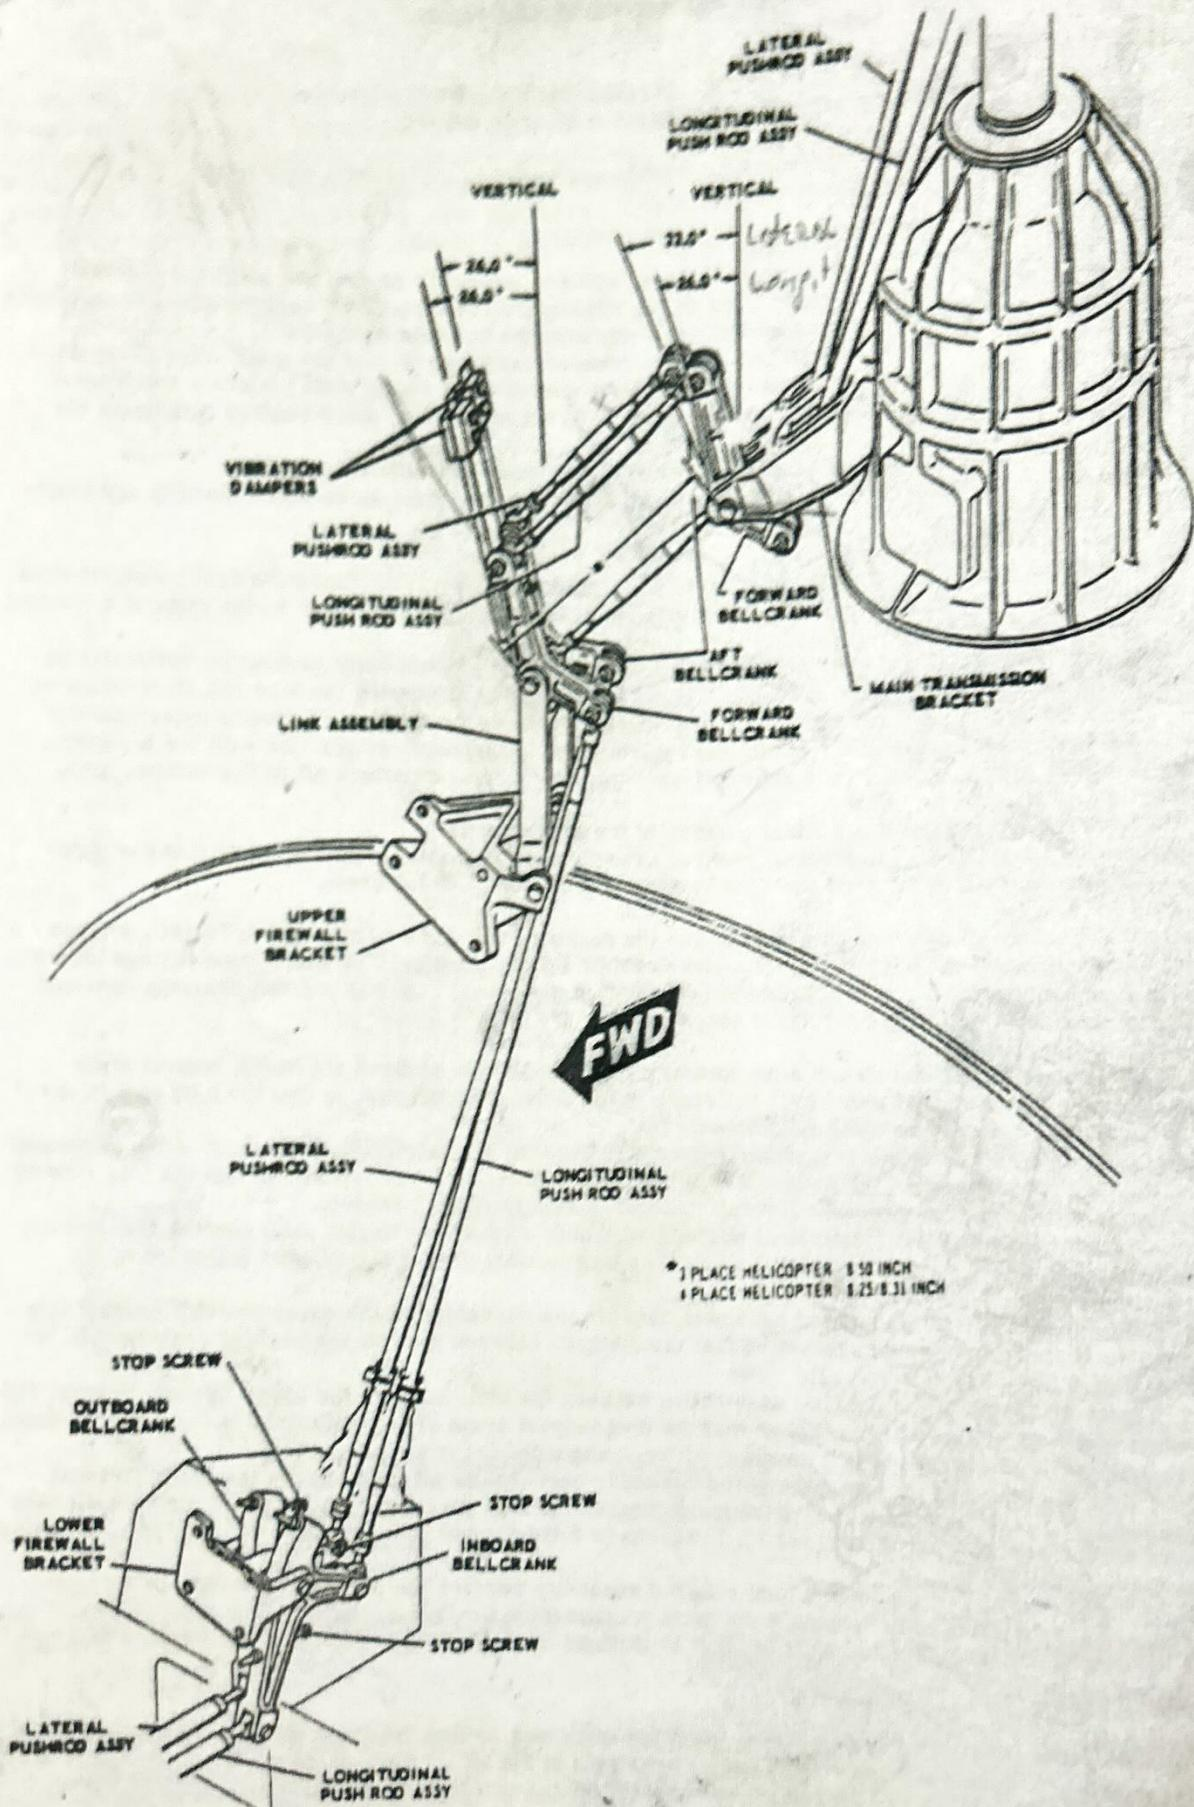

Figure 33-1-3. Cyclic Bellcrank-Bracket and Pushrod Adjustment
- (5) Adjust the length of the control stick lateral pushrod assembly between the cyclic control stick torque tube assembly and the short arm of the bellcrank in the under-seat bracket so that the long arm of the bellcrank is parallel to the seat bulkhead (station 44.75)...
- (6) Adjust the length of the lateral pushrod assembly between long arm of the bellcrank in the underseat bracket and the long (lower) arm of the outboard bellcrank in the lower firewall bracket so that the long (lower) arm of the outboard bellcrank in the lower firewall bracket is vertical (± 0.2 degree).
- (7) Adjust the length of the longitudinal pushrod assembly between the cyclic shaft control arm and the inboard bellcrank in the lower firewall bracket so that the long (lower) arm of the inboard bellcrank in the lower firewall bracket is vertical (± 0.2 degree).
- (8) Adjust the length of the pushrod assembly between the top center of the upper firewall bracket link assembly and the main transmission bracket so that the distance between the rod end bearing centers is 3.50-inches. (See figure 33-1-3)
- (9) Adjust the length of the pushrod assemblies between the bellcranks in the lower firewall bracket and the bellcranks in the upper firewall bracket so that the long (upper) arms of the bellcranks in the upper firewall bracket are inclined 26.0 degrees (± 2.0 degrees) forward and outboard from the vertical.
- (10) Adjust the length of the lateral pushrod assembly between the aft bellcrank in the upper firewall bracket and the aft bellcrank in the main transmission bracket so that the long (upper) arm of the aft bellcrank in the main transmission bracket is inclined 33.0 degrees (± 2.0 degrees) forward and outboard from the vertical. (See figure 33-1-3.)
- (11) Adjust the length of the longitudinal pushrod assembly between the forward bellcrank in the upper firewall bracket and the forward bellcrank in the main transmission bracket so that the long (upper) arm of the forward bellcrank in the main transmission bracket is inclined 26.0 degrees (± 2.0 degrees) forward and outboard from the vertical.